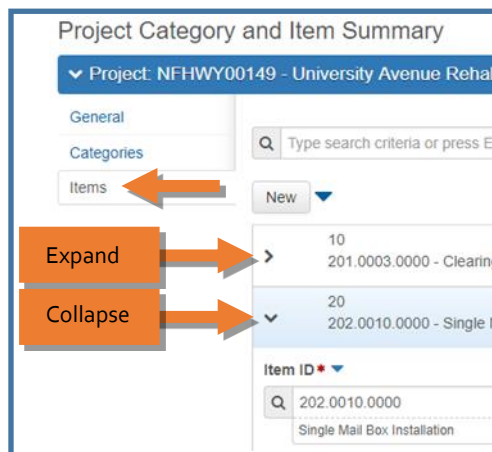

Figure 18.16
3. Select the **Items** tab (*Figure 18.16*).